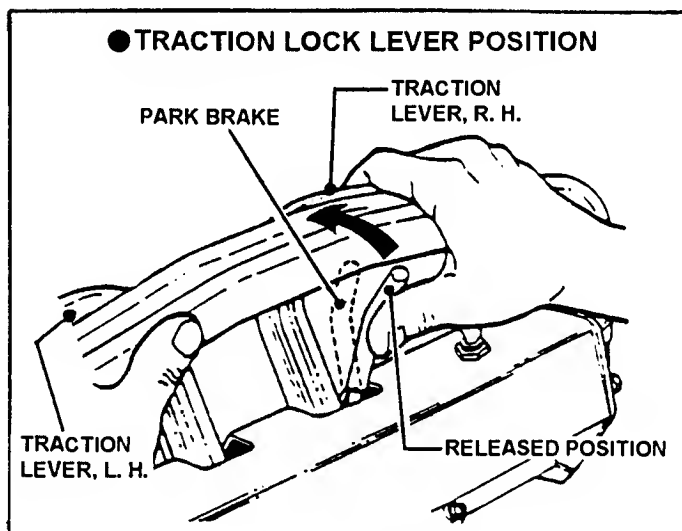

FIGURE 16
When Traction Lock Lever is placed in **PARK** position, both Traction Wheel Drives are disengaged and wheel brakes are set, allowing the operator to **PARK THE MOWER ON LEVEL GROUND OR WHEN TRANSPORTED IN TRUCK OR TRAILER**. See Figures 16 & 17.
3. To release Traction Lock, squeeze both Traction Levers firmly against the handlebar allowing Traction Lock to release. Simultaneously move both Traction Levers slowly forward, allowing machine to start forward movement. See Figure 16.